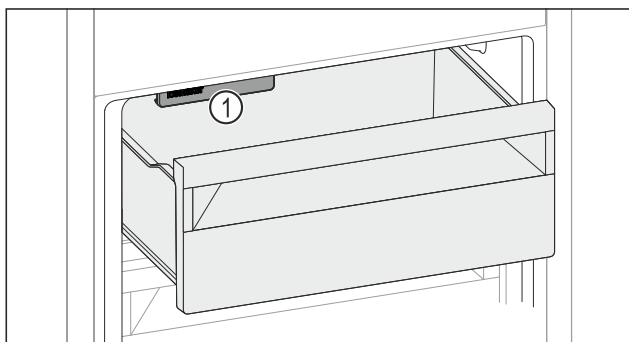

Fig. 160
- Watch out for the IceMaker Fig. 160 (1).